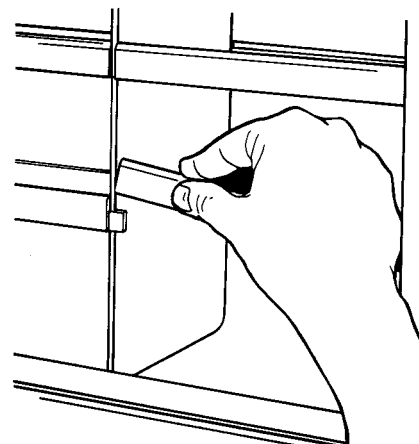

FIGURE 67
3. Replace the front trim by sliding the trim into the compartment area without the shelf. See Figure 67. When the shelves are removed either one or both sides can now be used as a tall package shelf. See Figure 68 and 69.